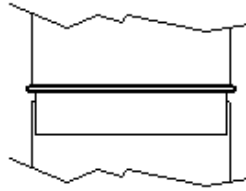
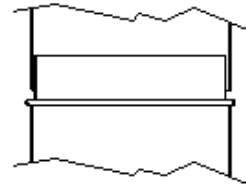

Figure 1: correct installation running on house interior. Liquids produced by gas condensation do not flow to the exterior through the pipe joints
Figure 2: correct installation for parts running on house exterior. Rainwater does not reach the inside of the pipe through the pipe joints
- When the pipes run through the inside of the home or a brick chimney, they should be mounted as shown in Figure 1 to prevent liquids produced by the condensation of the gases flowing through the joints and out of the pipes. If a pipe section runs outside the building it must be mounted in the direction shown in Figure 2 to prevent rainwater draining down the outside part of the pipe and entering the pipe interior through the joints.